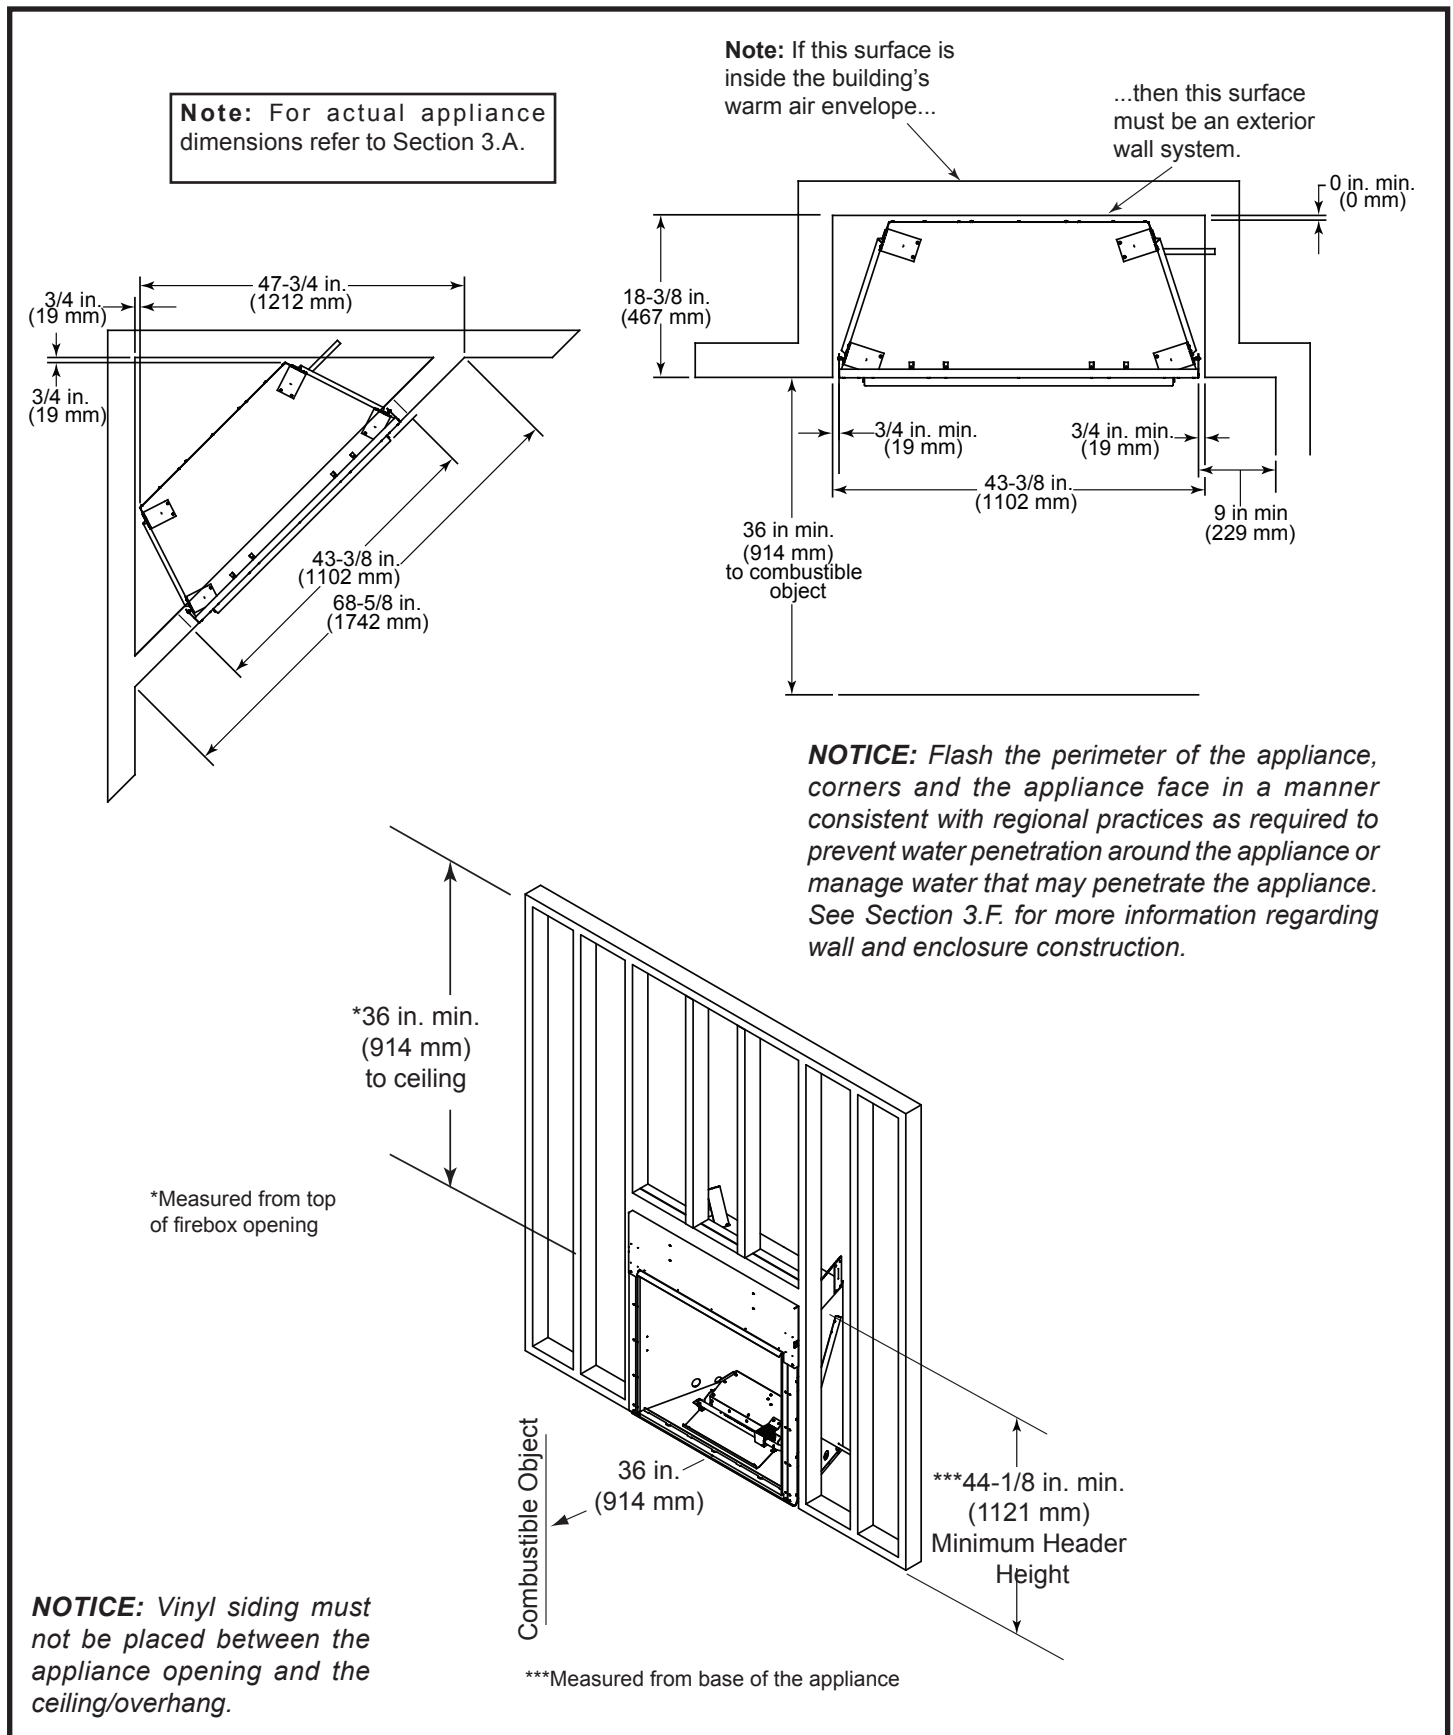

Figure 3.3 Appliance Locations and Framing Dimensions
Dimensions are actual appliance dimensions. Use for reference only. For framing dimensions and clearances refer to Figure 3.3 and Figure 3.4.
When selecting a location for the appliance it is important to consider the required clearances to walls (see Figure 3.3, 3.4, 3.5 & 3.6).
- See Figure 3.3, 3.4 & 3.5 for required clearances.
- Minimum air clearance at side and back of the appliance must be maintained. See Figures 3.3 and 3.4.
See Section 3B and Figure 3.3 and 3.4 for more information regarding wall and enclosure construction.